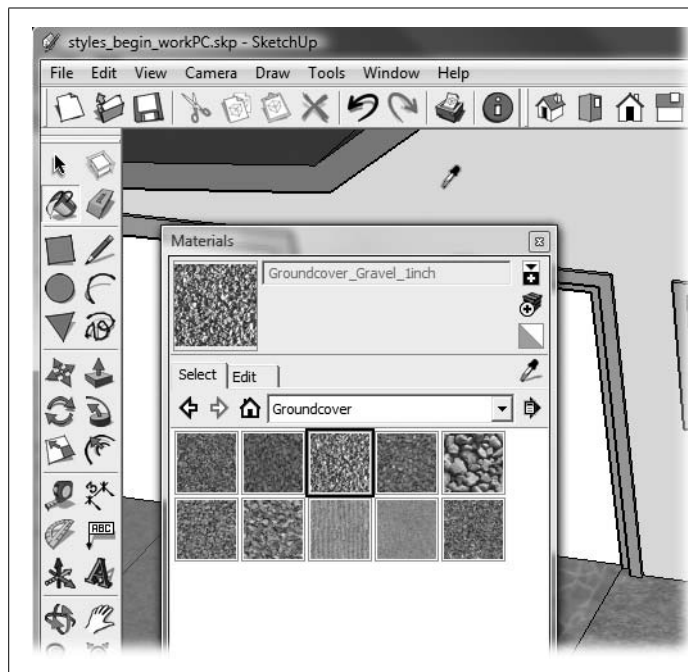

Figure 6-10:
Sometimes when you're applying colors with the Paint Bucket (B), you want to load the bucket with a new color or texture. Sure, you can go back to the Colors window and hunt down the color you need. However, if the color is already applied to one of the faces in the model, you have a quick way to fill the Bucket with that color. Press Alt, and the bucket cursor changes to an eyedropper, as shown in Figure 6-10. Click the eyedropper on the face with the color or material you want to copy. Release the Alt key, and the bucket cursor reappears. You're all set to paint some new surfaces.